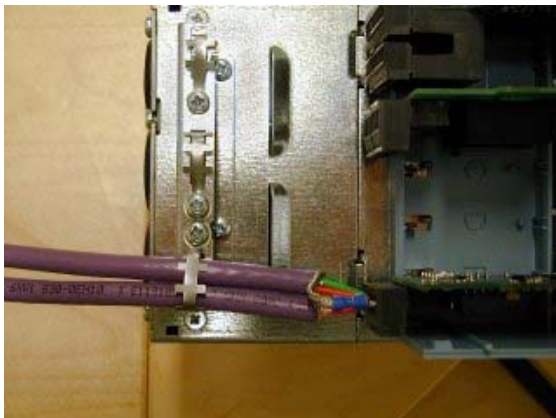

Figure 21.
3. Fix both the cables on the frame with the clamp. See Figure 21.